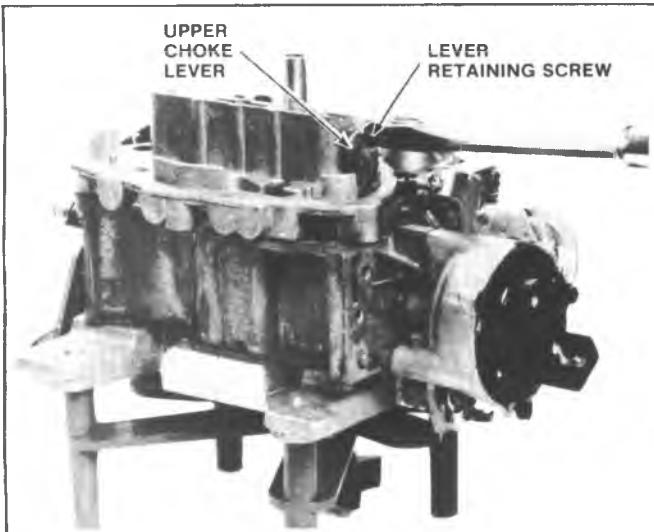

Fig. 6C3-17—Removing Upper Choke Lever
1. Remove upper choke lever from the end of choke shaft by removing retaining screw (Fig. 6C3-17). Then rotate upper choke lever to remove choke rod from slot in lever.
3. With Tool J-25322 drive roll pin (pump lever pivot pin) inward just until pump lever can be removed from air horn. Then remove pump lever from pump rod (Fig. 6C3-18). Note location of accelerator pump rod for reassembly.
4. Remove seven air horn to bowl attaching screws; two countersunk attaching screws are located next to the venture (Fig. 6C3-19).
5. Remove air horn from float bowl by lifting straight up. The air horn gasket should remain on the float bowl for removal later (Fig. 6C3-20).
Remove front vacuum break hose. Then remove two attaching screws and remove vacuum break control and bracket assembly. (Fig. 6C3-21). Do not place vacuum break assembly in carburetor cleaner.